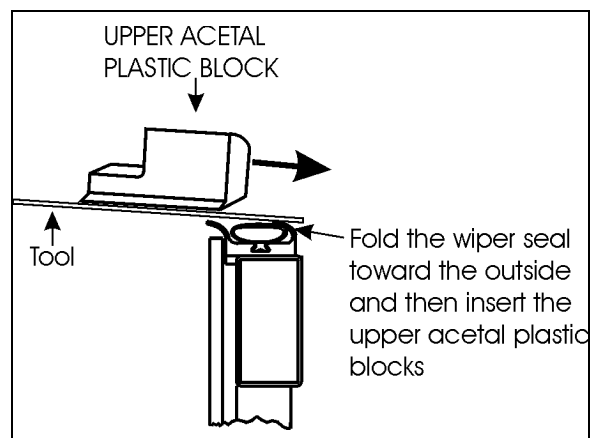

FIGURE 27: LOWER ACETAL PLASTIC BLOCK INSERTION
5. Reinstalling the upper acetal plastic blocks. Fold the wiper seal toward the outside with a flat tool to ease installation (FIGURE 27). Tighten the mounting screws to a torque of 7 ft-lb. Leave no gap between the blocks and the rail.